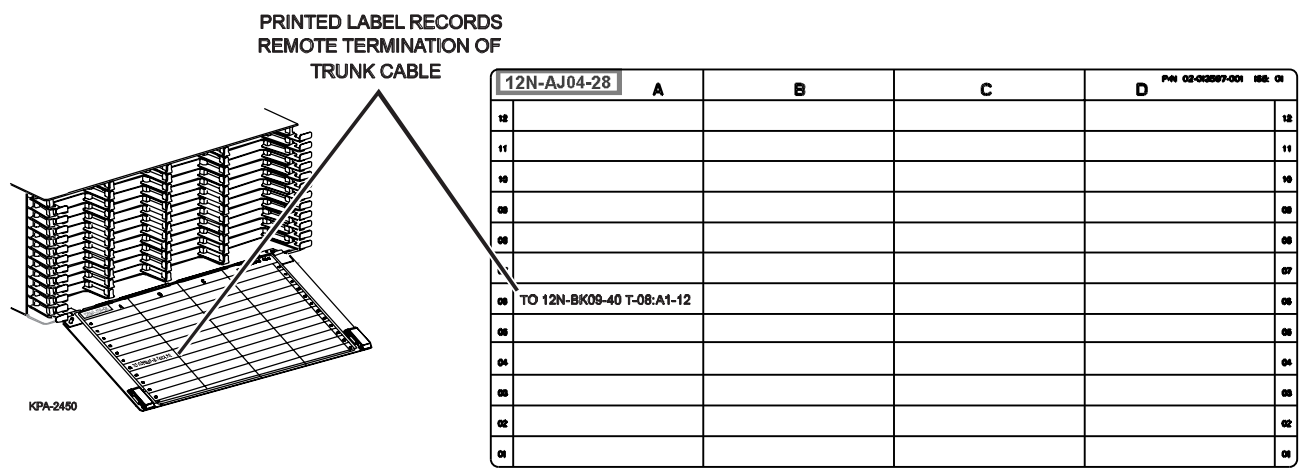

Figure 30 — Print Remote Termination Table
Step 5: Documentation (Figure 30)
Step 2: Press latch on LC connector and pull connector out (Figure 32). If jumper is equipped with MTP connector, simply grasp connector body and pull connector out of the adapter. (NOTE: only LC connectors shown in Figure 30.)